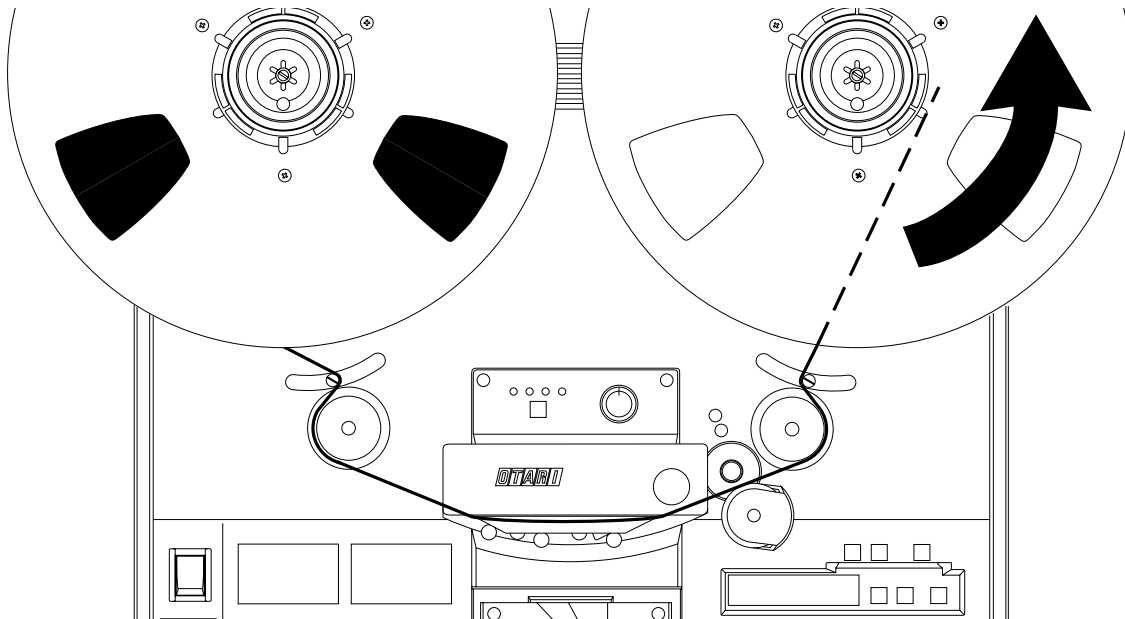

Figure 4-2
3. Thread the tape from the supply reel to the take-up reel as shown in **Figure 4-2** and turn the take-up reel counterclockwise to remove the slack from the tape path.